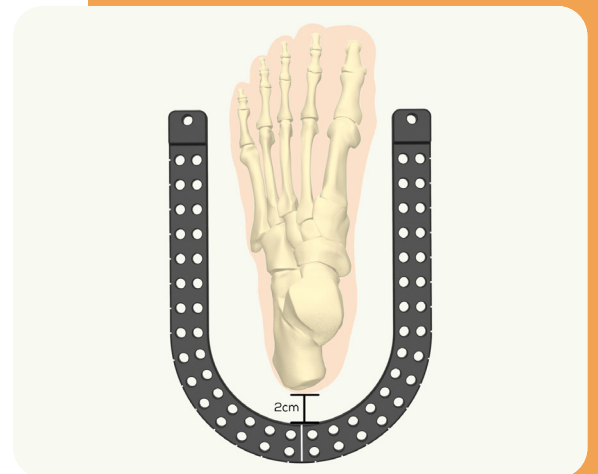

Fig. 3 - Determine Appropriate Foot Ring
- 2 Select the appropriate size of Foot Ring, ensuring to have at least 2cm between the skin and Ring (Fig. 3).